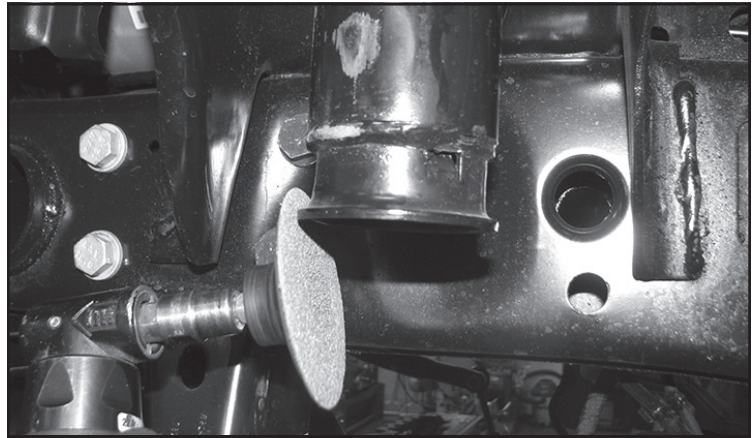

FIGURE 11 - STEP 10
10. Using a sander, sand down the lip of both factory bumpstop mounts. **SEE FIGURE 11**